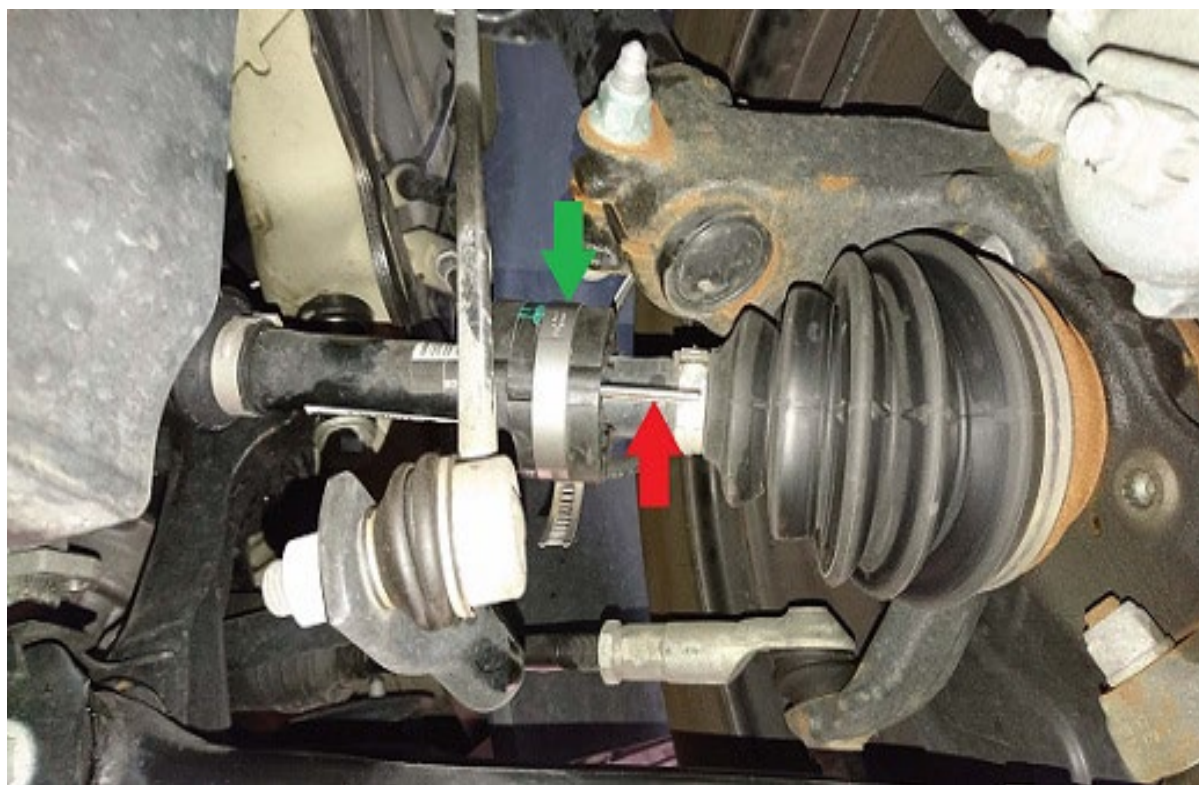

Figure 2. Secured damper weight with inserted roll pin
- Position damper weight at the position marked previously on the left wheel input shaft again. Secure damper weight using a commercially available screw-type hose clamp (Figure 2, green arrow).
- Insert roll pin into the left or right hole in damper weight (Figure 2, red arrow).